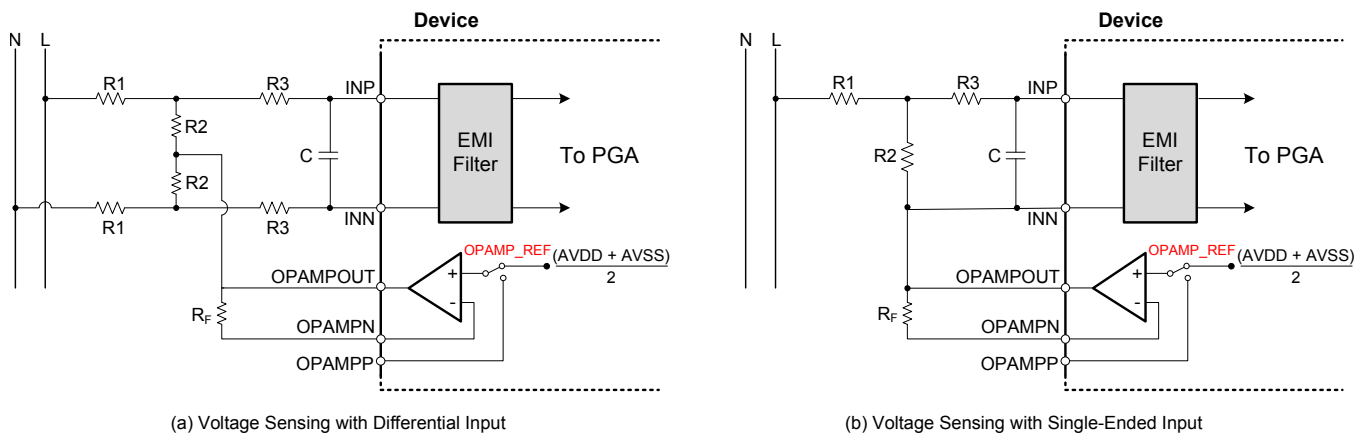

**Figure 41. Simplified Current-Sensing Connections**
Figure 41 shows a simplified diagram of typical configurations used for current sensing with a Rogowski coil, current transformer (CT), or an air coil that outputs a current or voltage. In the case of current-output transformers, the burden resistors ( $R1$ ) are used for current-to-voltage conversion. The burden resistor output is connected to the ADS130E08 INP and INN inputs through an antialiasing RC filter for current sensing. In the case of voltage-output transformers (such as certain types of Rogowski coils), the transformer output terminals are directly connected to the ADS130E08 INP and INN inputs through an antialiasing RC filter for current sensing. The common-mode bias voltage ( $AVDD + AVSS$ ) / 2, can be obtained from the ADS130E08 by either configuring the internal op amp in a unity-gain configuration using the  $R_F$  resistor and setting bit 3 of CONFIG3: Configuration Register 3, or it can be generated externally with a simple resistor divider network between the positive and negative supplies.